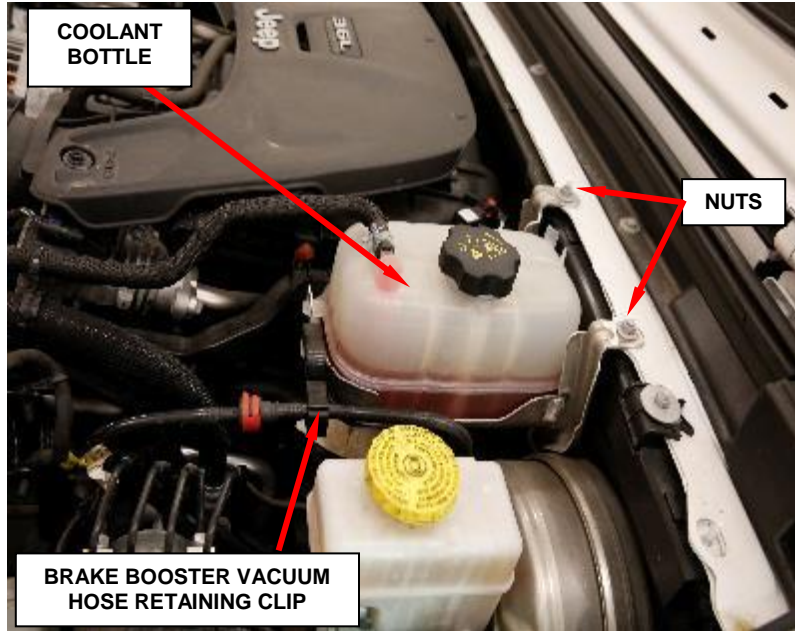

Figure 4 – Coolant Bottle
4. Removing the coolant bottle will provide access to the intermediate shaft to steering column shaft connection (Figure 4).
- c. Release the brake booster vacuum hose from the retaining clip (Figure 4).
- d. Remove the coolant bottle from the frame by removing the two coolant bottle nuts (Figure 4).